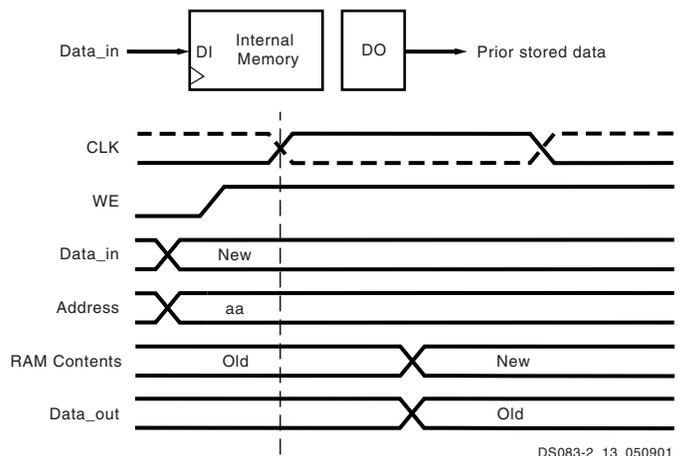

Figure 38: READ_FIRST Mode
The READ_FIRST option is a read-before-write mode. The same clock edge that writes data input (DI) into the memory also transfers the prior content of the memory cell addressed into the data output registers DO, as shown in Figure 38.